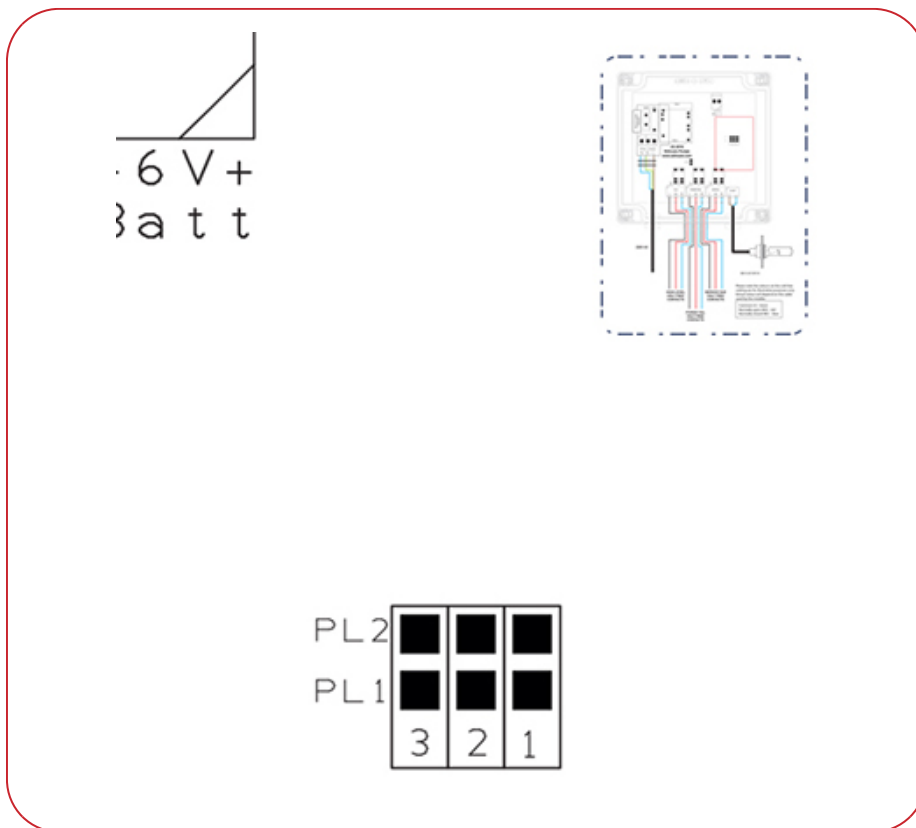

Fig.8 Setting the jumpers for the service interval
The service interval is factory set to yearly. To change to quarterly or half yearly please change the jumper settings on the PCB using the information, **as shown in fig.8.**
- You will have the option to set the service reminder intervals. The service reminder intervals will be changeable via a series of jumper positions, **as shown in fig.8** setting the jumpers.